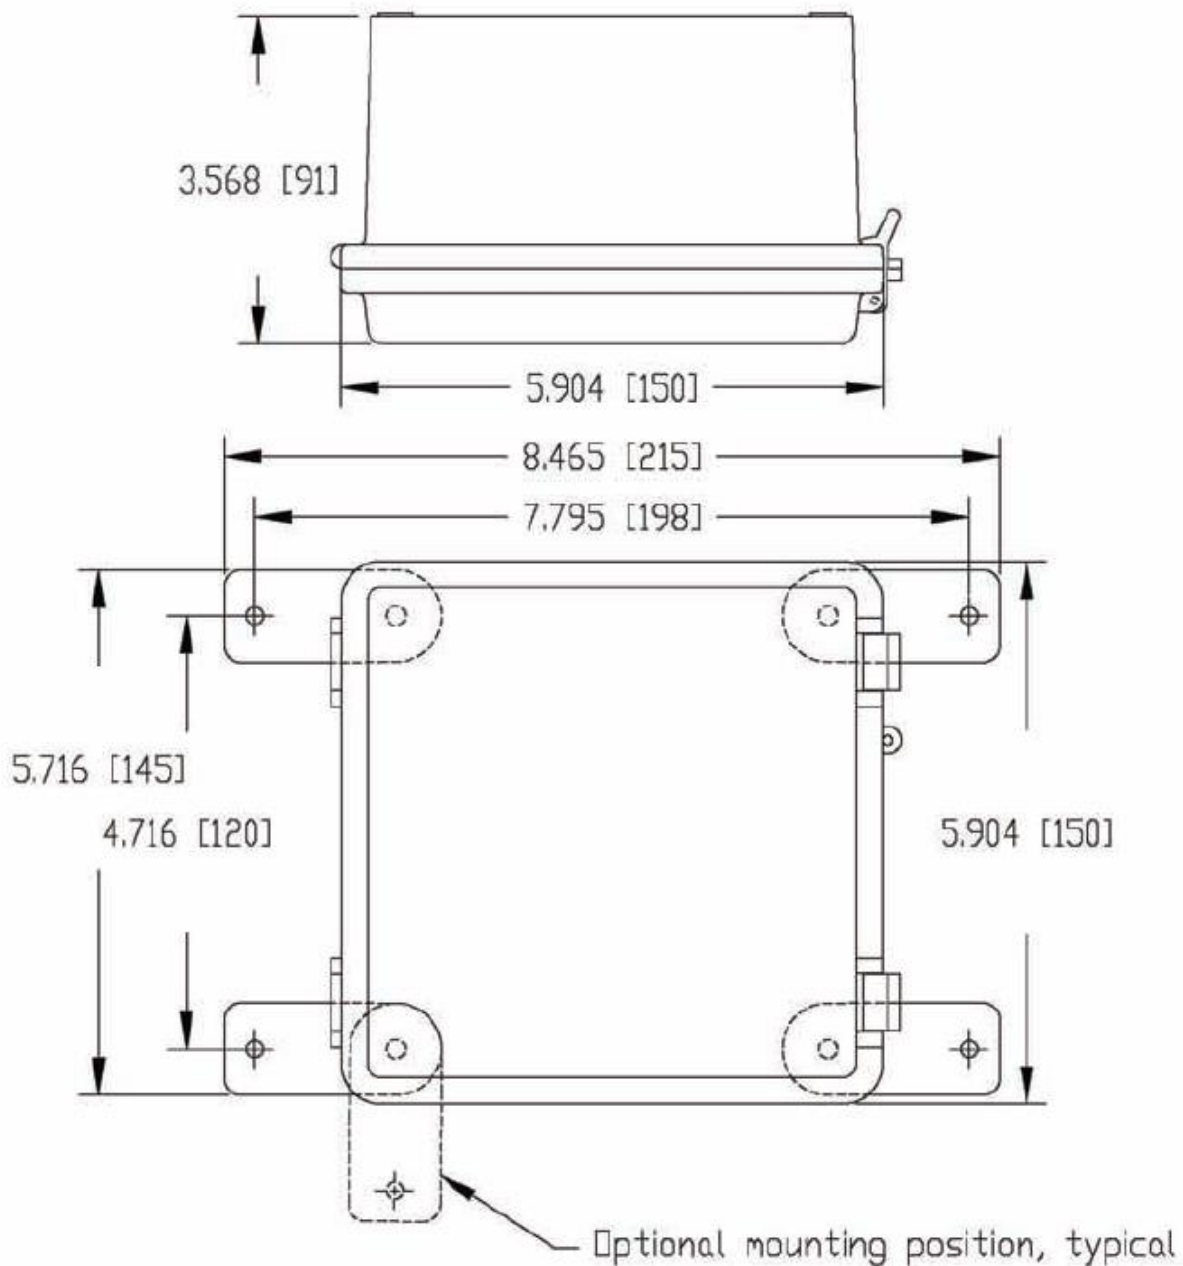

Figure 2: Plastic enclosure dimensions
2. Plastic NEMA 4X enclosures, shown in Figure 2